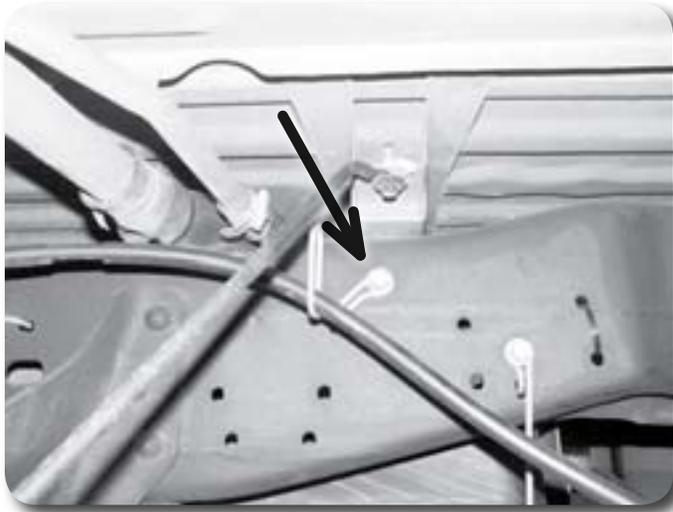

Figure 23
12. If more parking brake cable slack is needed, remove the cable from the rear-most retaining bracket on the frame. Figure 23